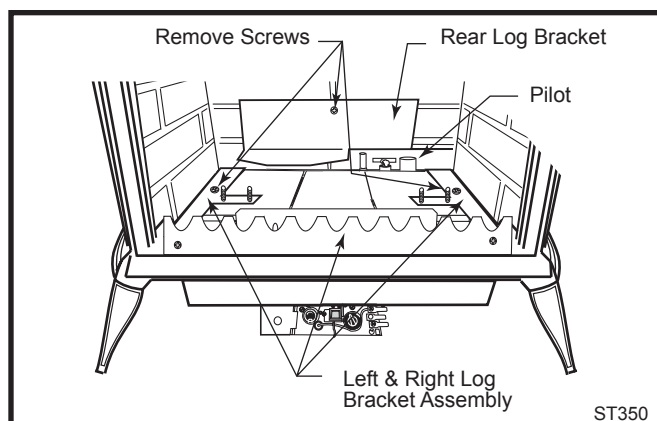

Fig. 37 Remove rear log bracket and left and right log bracket assembly.
5. Remove the rear log bracket by unfastening the screw. (Fig. 37)
6. Remove the right and left log bracket assembly by unfastening the two screws which hold the burner in place. (Fig. 37)